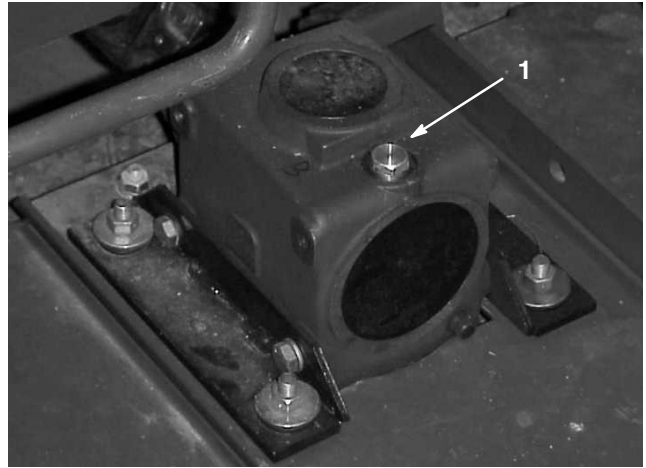

Figure 25
2. Position the machine and cutting unit on a level surface and lower the cutting unit. Remove the dipstick/fill plug from the top of the gear box (Fig. 25) and make sure that the lubricant is between the marks on the dipstick. If the lubricant level is low, add SAE 80–90 wt. gear lube until the level is between the marks.